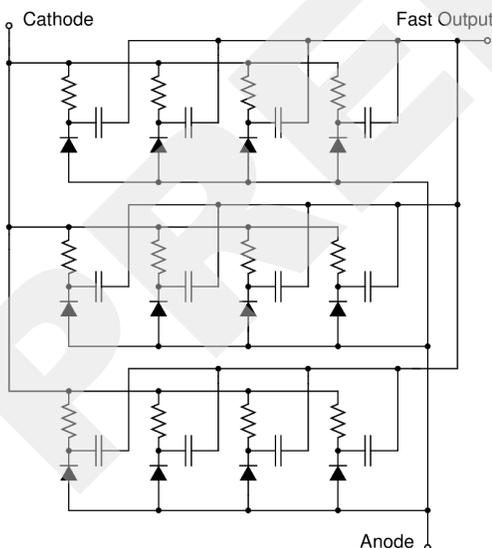

Figure 2, Simplified microcell level schematic of the R-Series SiPM.
**Timing:** R-Series sensors feature optimized quench resistor values, and other improvements that have dramatically reduced the microcell recovery time and the standard signal rise time. All R-Series sensors also feature SensL's proprietary fast output terminal (Figure 2), which is the derivative of the internal fast switching of the microcell in response to the detection of a single photon, and has sub-nanosecond rise times and pulse-widths. These features make the R-Series sensors highly suited to high-performance timing applications.